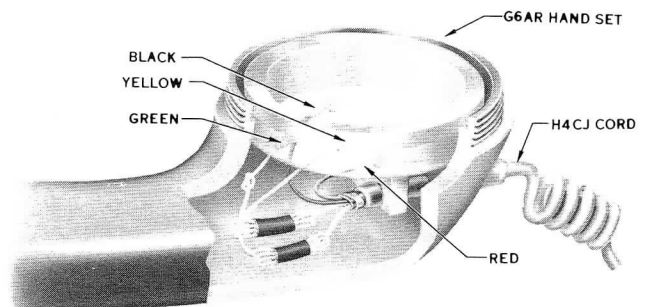

Fig. 35 — G6AR, G7AR, and G8A Hand Sets, Cord Mounting
- (4) Place in transmitter bowl carefully so as not to disrupt printed board circuit (Fig. 35).